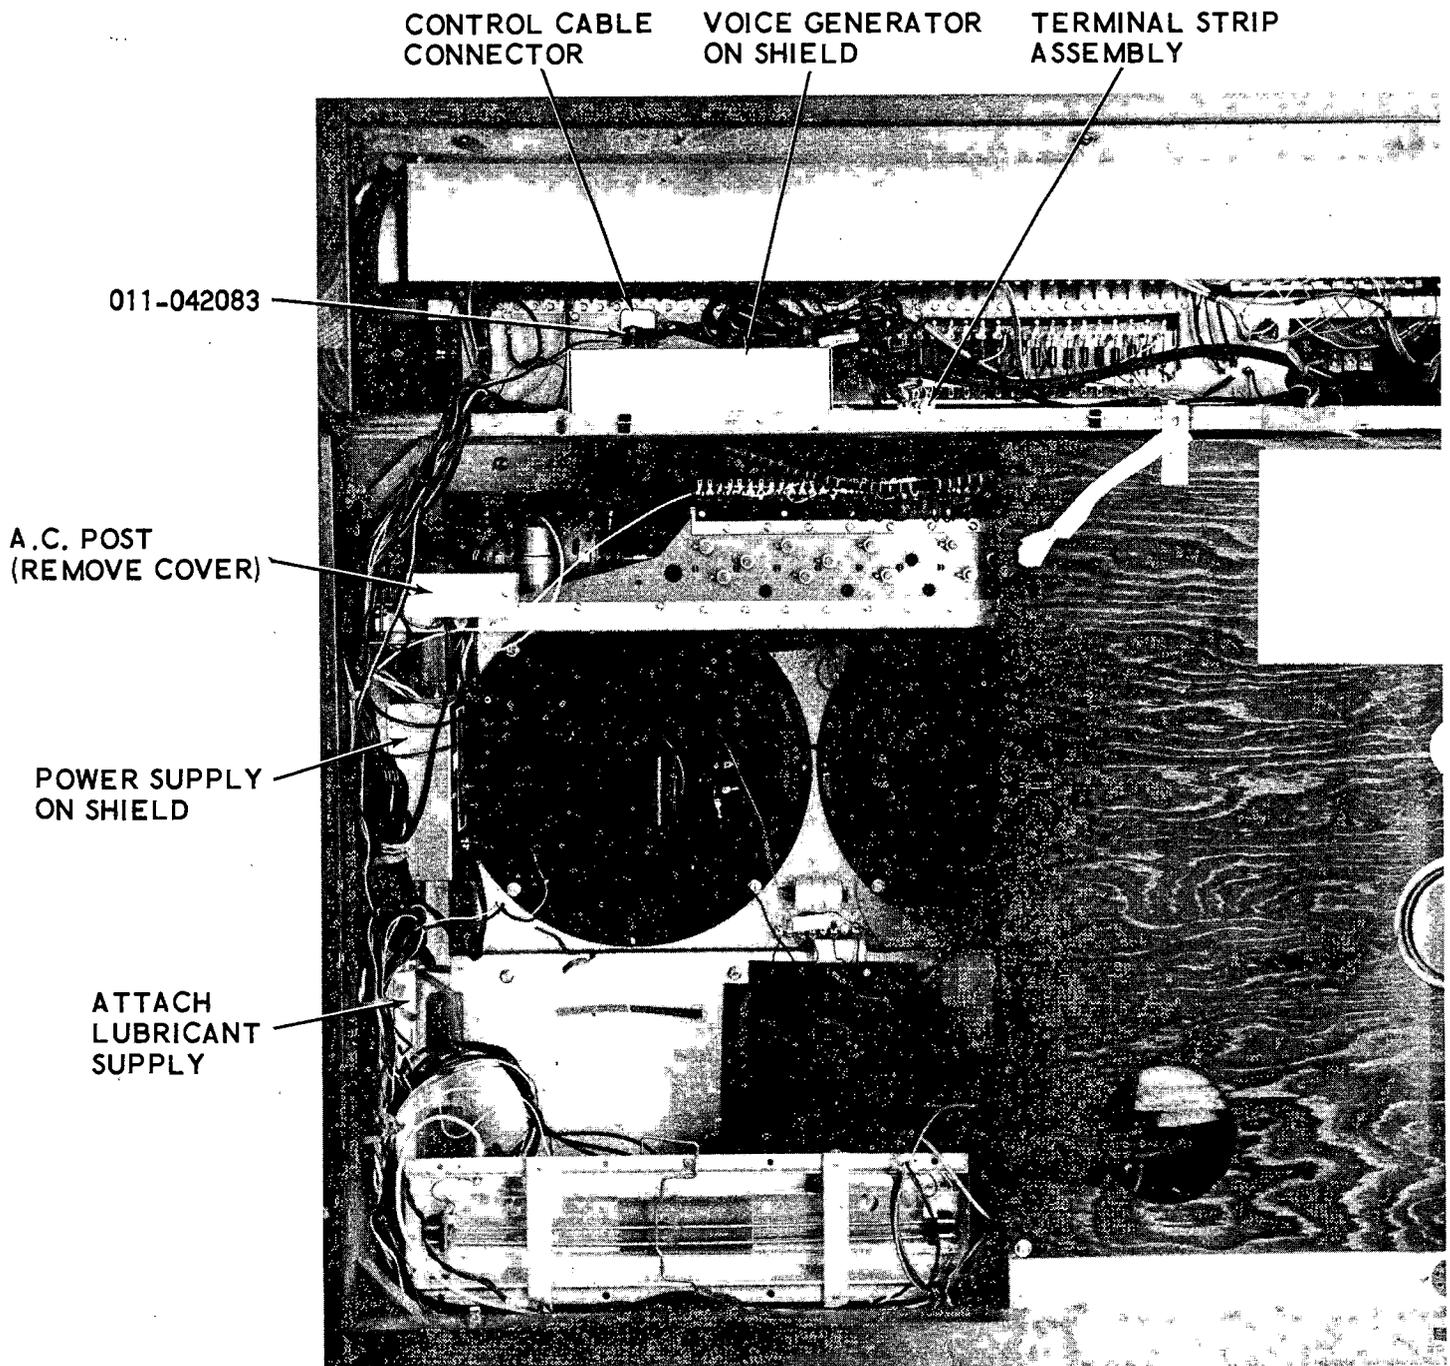
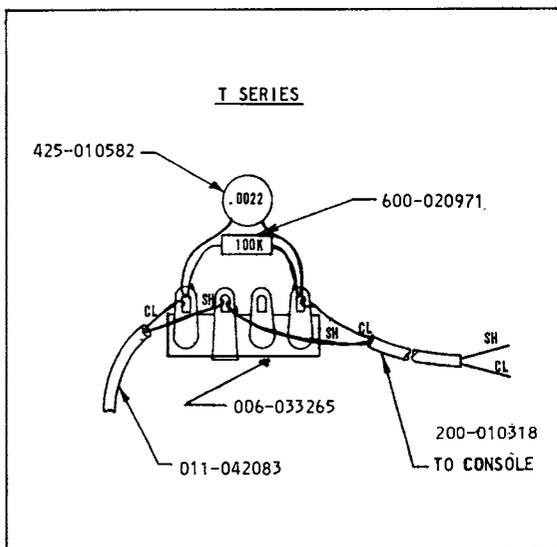

Figure A-3
Figure A-4.
The Power Supply is to be installed in the position indicated in Figure A-3.
- a. Remove tube of oil from left end wall. Remove cable ties holding tube. Relocate ties and tube as shown in Figure A-3.
- a. Place voice generator shield, 010-042082, over pilot holes on upper shelf of organ. Position as shown in Figure A-3.
Assemble terminal strip assembly as shown in Figure A-4, using .0022 uf capacitor and 100K resistor. Fasten terminal strip assembly to shelf about two inches to the right of voice generator, as shown in Figure A-3. Use one screw, 884-050734.
- d. Solder free ends of wire and plug assembly, 011-042083, to terminal strip assembly, as shown in Figure A-4.
- e. Solder free ends of coaxial cable 200-010318, to terminal strip assembly, as shown in Figure A-4 and tablet, as shown in Figure A-5.